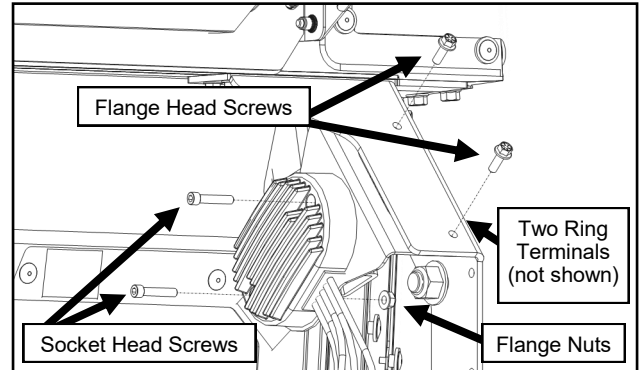
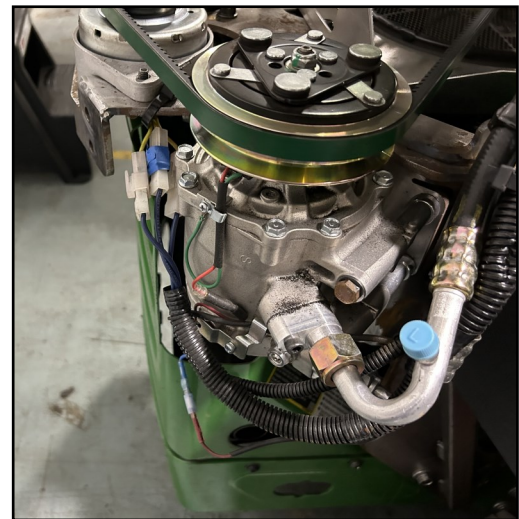

Fig. 2.17a (Voltage Regulator)
Fig. 2.17b (Voltage Regulator Harness)
2.17 Install the supplied voltage regulator and bracket to the right side ROPS mount. Attach two ring terminals to the lower bolt (one ring terminal is from the voltage regulator and the other ring terminal is from the voltage regulator harness). Use the hardware listed below. See Figures 2.17a and b. Plug the voltage regulator harness into the voltage regulator. Route the end with the (3) white connectors down to the compressor following the (2) A/C hoses, keeping the harness between the hoses. Route under elbow of refrigerant hose to ensure wires stay away from belt. Connect the (3) white connectors to the dynamo pigtails, any connector to any connector. Secure harness to mounting bracket with wire tie, just behind dynamo slot. See Figure 2.17b